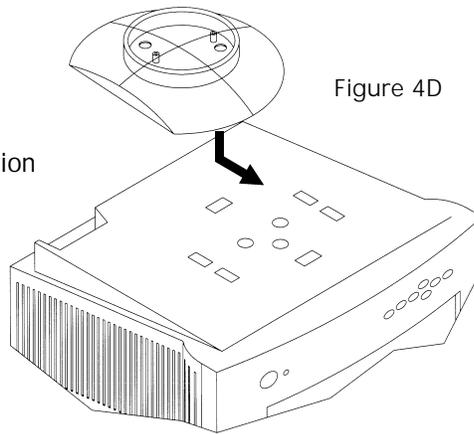

Figure 4D
Step 5 After the adapter plate has been attached to the base, snap the base assembly to the monitor. To accomplish this, position all the locking tabs on the base so they mate with the holes in the monitor. Slide the base assembly in place as shown in Figure 4D.